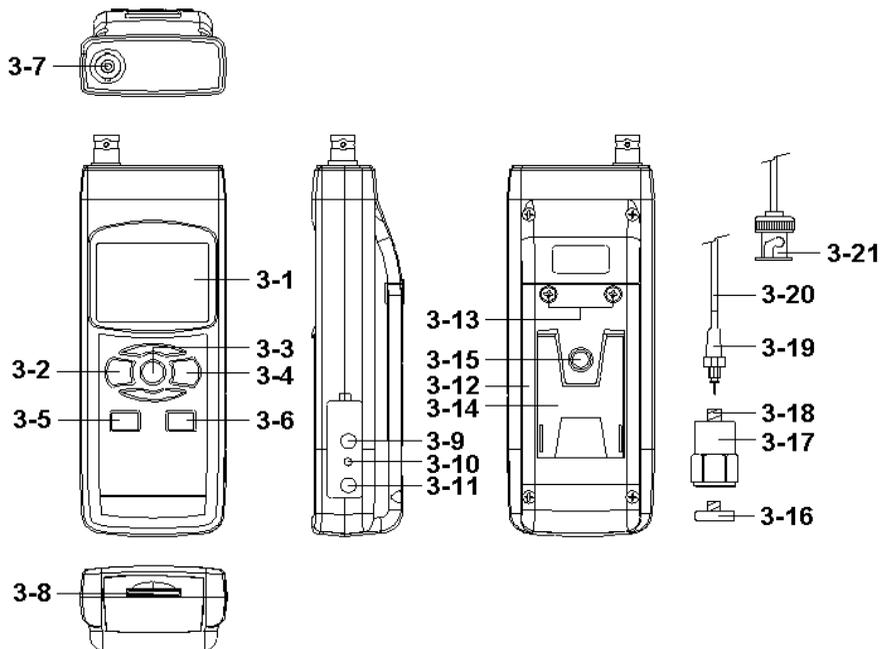

Fig. 1
Zero Button	Under Acceleration (RMS) measurement, sensor motionless , press Logger Button (3-6, Fig. 1) > 5 seconds.
Max. Hold Reset Button	Under Max. hold measurement, press Logger Button (3-6, Fig. 1) > 5 seconds.
(3-2, Fig. 1) momentarily.
- * *Pressing the " Power Button " (3-2, Fig. 1)
- 2) Plug in the " Cable BNC Plug " (3-21, Fig. 1)
to the " BNC Input Socket " (3-7, Fig. 1).
the " Sensor cable " (3-20, Fig. 1).*
Select the desired display unit by pressing the " Unit Button " (3-4, Fig. 1) continuously (not release the button), the Display will show the following units according Acceleration/Velocity/Displacement in sequence.
Select the desired function (RMS, Peak, Max HOLD) by pressing the " Function Button " (3-3, Fig. 1). continuously (not release the button), until the Display will show the desiring function (RMS, Max HOLD, Peak) , then release the " Function Button " (3-3, Fig. 1). The detail procedures, please refer to chapter 4-1, page 9.
Under execute the Max Hold function if press the " LOGGER Button " (3-6, Fig. 1) continuously at least 5 seconds will clear the existing Max hold value.
- 1) Vibration sensor is ready, connect the " Plug of cable " (3-21, Fig. 1) into the " " Input socket " (3-7, Fig. 1).
- 4) Press the " LOGGER Button " (3-6, Fig. 1) continuously at least 5 seconds will let the display reach zero value.
During the measurement, press the " Hold Button " (3-3, Fig. 1) once will hold the measured value & the LCD will display a " HOLD " symbol.
- 1) The data record function records the maximum and minimum readings. Press the " REC Button " (3-4, Fig. 1) once to start the Data Record function and there will be a " REC " symbol on the display.
- a) Press the " REC Button " (3-4, Fig. 1) once, the " REC MAX " symbol along with the maximum value will appear on the display.
If intend to delete the maximum value, just press the " Hold Button " (3-3, Fig. 1) once, then the display will show the " REC. " symbol only & execute the memory function continuously.
- b) Press the " REC Button " (3-4, Fig. 1) again, the " REC MIN " symbol along with the minimum value will appear on the display.
If intend to delete the minimum value, just press the " Hold Button " (3-3, Fig. 1) once, then the display will show the " REC. " symbol only & execute the memory function continuously.
After power ON, the " LCD Backlight " will light automatically. During the measurement, press the " Backlight Button " (3-2, Fig. 1) once will turn OFF the " LCD Backlight " .
Prepare a " SD memory card " (1 G to 16 G, optional), insert the SD card into the " SD card socket " (3-8, Fig. 1). The front panel of the SD card should face against the the down case.